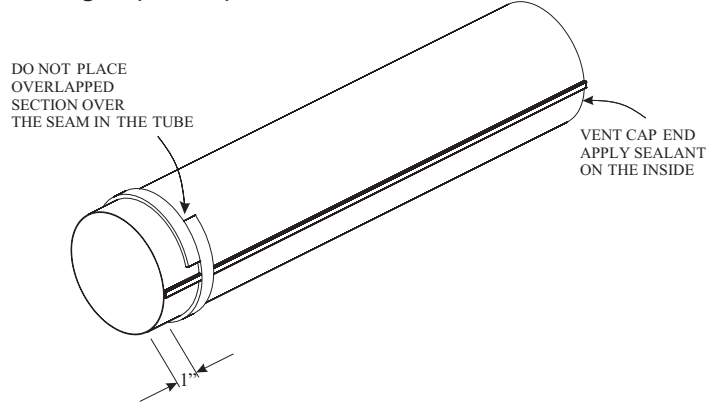

Figure 58
12. Seal the 4" (102mm) diameter flue outlet tube. Follow instructions and diagram. See **Figure 58**.
If the air inlet and flue outlet tubes are to be connected directly to the unit (no rigid venting system is being used), then the gasket provided must be used to seal the 4" (102mm) flue outlet tube. Peel the paper off the self-adhesive gasket and then wrap it around the end of the tube (if tube was cut, it is recommended to use cut end) as shown in **Figure 58**. Pull the gasket tight at all times while wrapping it around tube. The gasket ends should align, to form a complete seal. The overlapped section should NOT come in contact with the seam in the tube. Apply high temperature sealant to the opposite end of the tube (on the inside of the tube). The end with the gasket will attach to the back of the unit. Continue with Step 13.